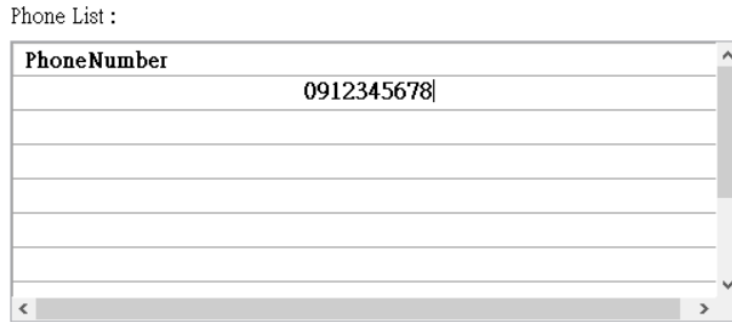

Figure 6.10.27
- H. Fill in the target phone number, as shown in Figure 6.10.27